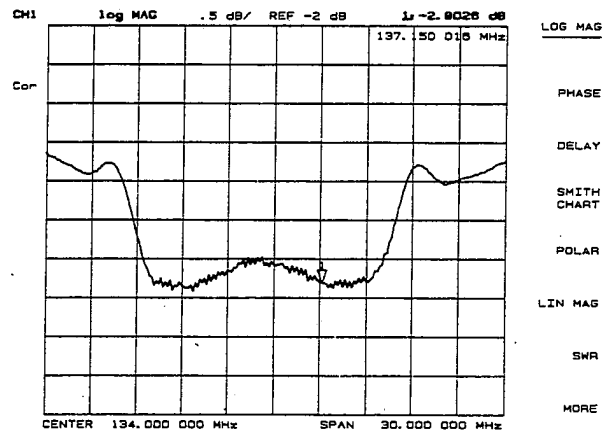

Figure 7-9. Log Magnitude Format
**[LOG MAG]** (LOGM) displays the log magnitude format. This is the standard Cartesian format used to display magnitude-only measurements of insertion loss, return loss, or absolute power in dB versus frequency. Figure 7-9 illustrates the bandpass filter reflection data in a log magnitude format.